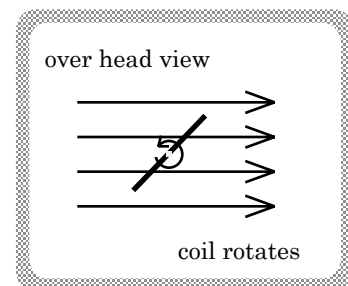

FIGURE 17.13
c.) Rotation as shown in Figure 17.13 depicts a situation in which the external magnetic flux through the coil's face is increasing. The only way to *oppose* an increase in magnetic flux is to generate a magnetic flux that subtracts from the existing flux. In other words, we need a current that will produce a \mathbf{B} -field in the direction opposite the external \mathbf{B} -field, or to the left.